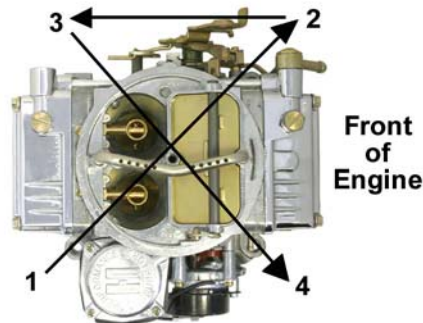

Figure 5
3. Place the carburetor on top of the flange gasket on the manifold. Install the hold-down nuts and snug down progressively in a "crisscross" pattern (60-80 in./lbs.), as shown in Figure 5.